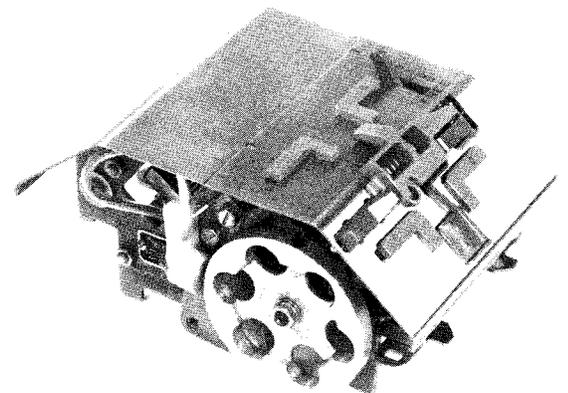

Figure 1 - High Speed Tape Reader Unit
1.01 This section provides lubrication information for the high speed tape reader units (Figure 1). It is reissued to incorporate engineering changes and comments received on Issue 4. Since only a limited distribution was made on Issue 4, marginal arrows have been omitted.
1.03 References made to left or right, front or rear, and top or bottom apply to the reader as viewed with the flywheel facing the viewer (Figure 1).